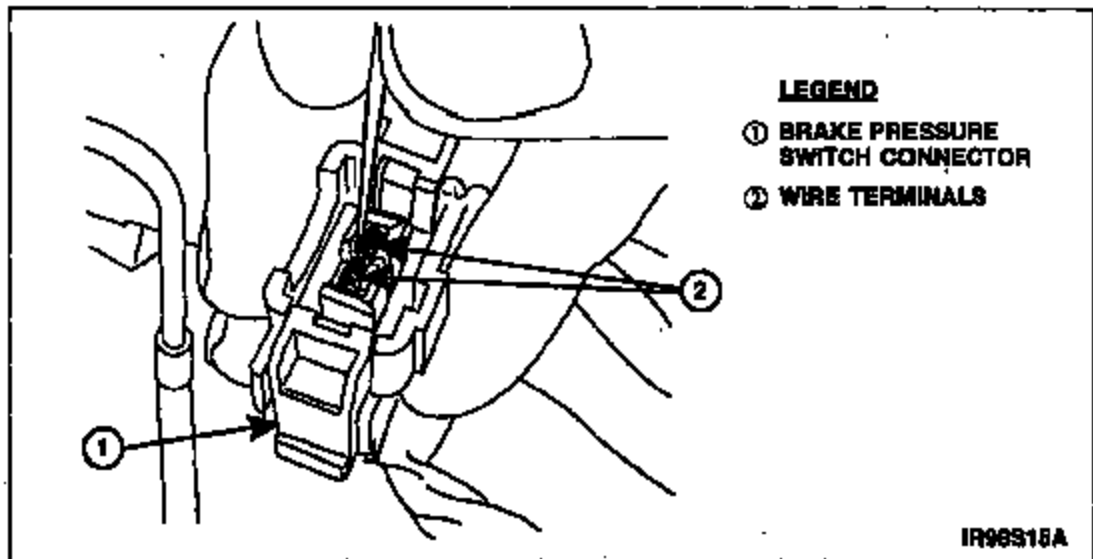

FIGURE 1
3. Remove the locking wedge from the end of the connector. Then, disengage the locking tabs and remove the wire terminals from the connector. See Figure 1.